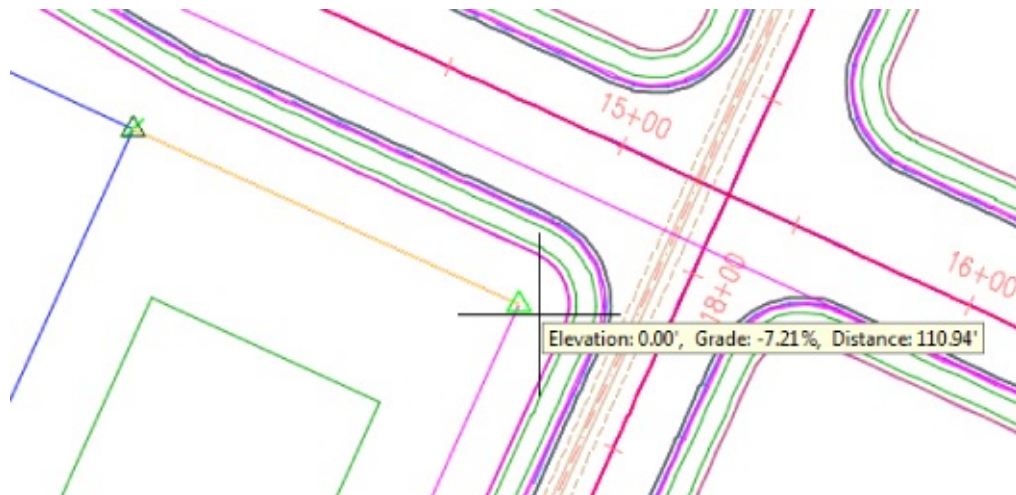

Figure 14.27 Using Set Elevation By Reference to grade the edge of concrete
- b. At the Specify point or [Insert]: prompt, hover over the northeast corner of the edge of concrete near point 7 and left-click (there is no need to use Osnaps), as shown in Figure 14.27.